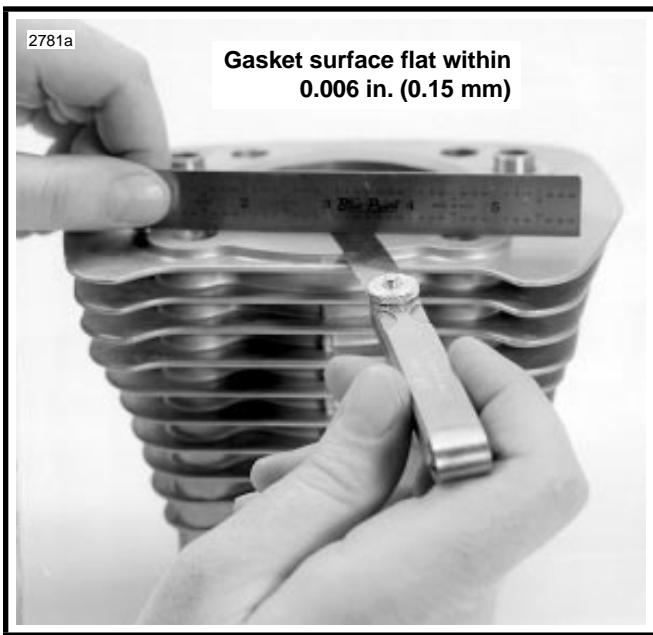

Figure 3-29. Checking Gasket Surfaces
1. See Figure 3-29. Check that cylinder top (head) gasket surface is flat within 0.006 in. (0.15 mm). Lay a straight edge across the surface, then try to insert a feeler gauge between the straightedge and the gasket surface.